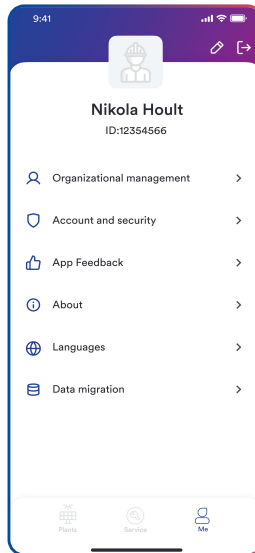

Figure 4.2. "Me"page
- If you have registered an account with enterprise user identity through the "Solplanet" application, and want to migrate all the power station information in the account with your end user identity. You can migrate data through "Data Migration" on the "Me" page (as shown in Figure 4.2). The operation steps are the same as the data migration on the login page above.